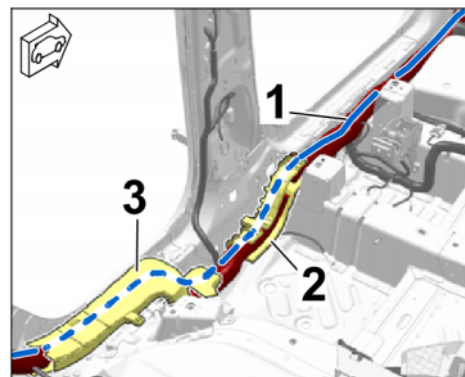

Figure 16
3.2.2 Door sill area, left ( $\Rightarrow$  Figure 16)